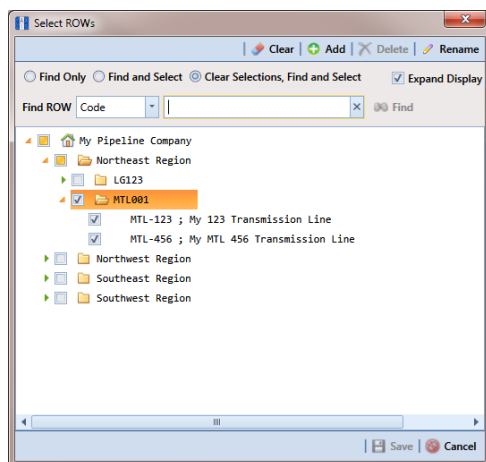

Figure 10-40. Select ROWs
- 1 Select one or more pipeline segments in the *Select ROWs* window. Select pipeline segment(s) with facilities you want to include in the Bridge definition. Click  **Save** to close the window (Figure 10-40).